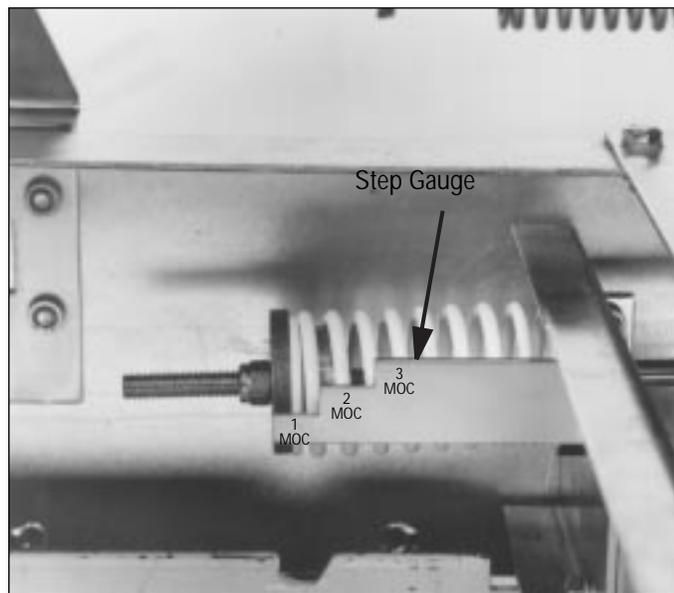

Figure 4-2 Drive Spring Adjusted for 0 or 1 MOC Switch
- Step 3:** From the factory, the drive spring comes set for 0 or 1 MOC switch. Refer to Figure 4-2 to see how that adjustment would look. Notice that there is a nut and a jam nut on the threaded rod to make the adjustment easy. Also notice that a step gauge is provided and bolted next to the spring to further simplify the adjustment (Figures 4-2 and 4-3).